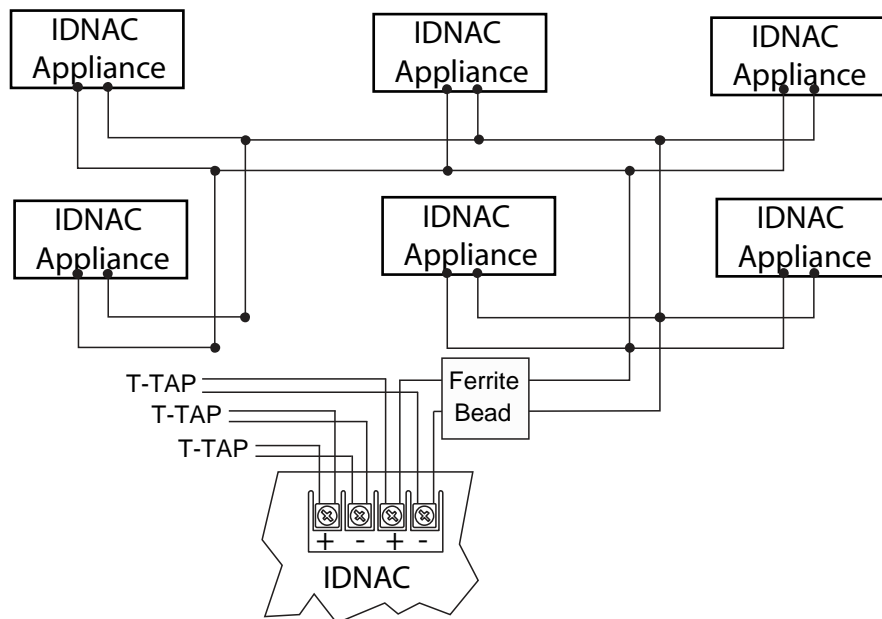

Figure 6-3. Class B wiring
**Note: 2.** Each IDNAC + and - terminal is rated for 2 identical wires. This allows up to 4 Class B T-TAP circuits directly from each IDNAC terminal block. See Figure 6-3.